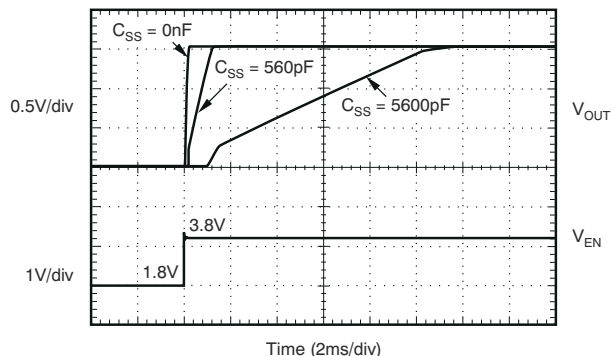

图 8-6. Turn-On Response
3. Select a minimum of a 2.2-µF ceramic output capacitor. Increased output capacitance helps the output load transient response. 图 8-6 gives examples of the load transient response with different output capacitor values and types.